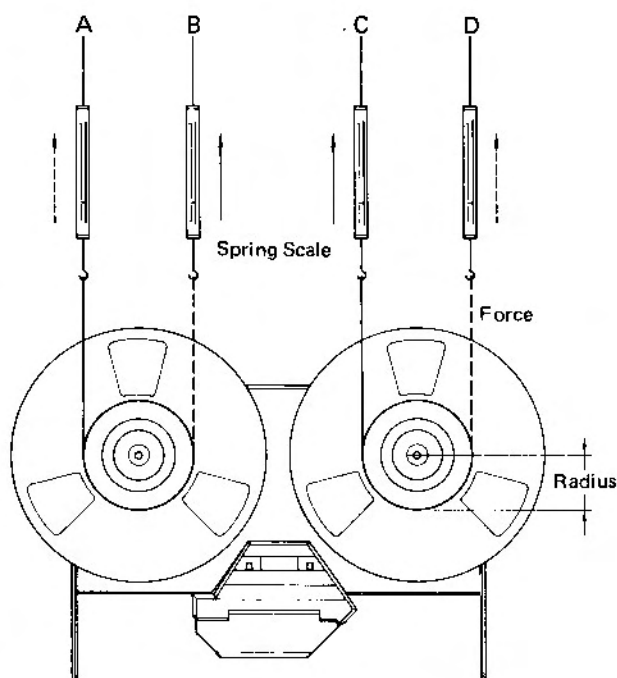

Fig. 2-3.
1. Mount an empty 10-1/2" reel onto either reel table and attach a spring scale to the reel with a string. See Fig. 2-3.
- Follow steps 1 and 2 for each measuring condition; i.e., (A) through (D) in Fig. 2-3.